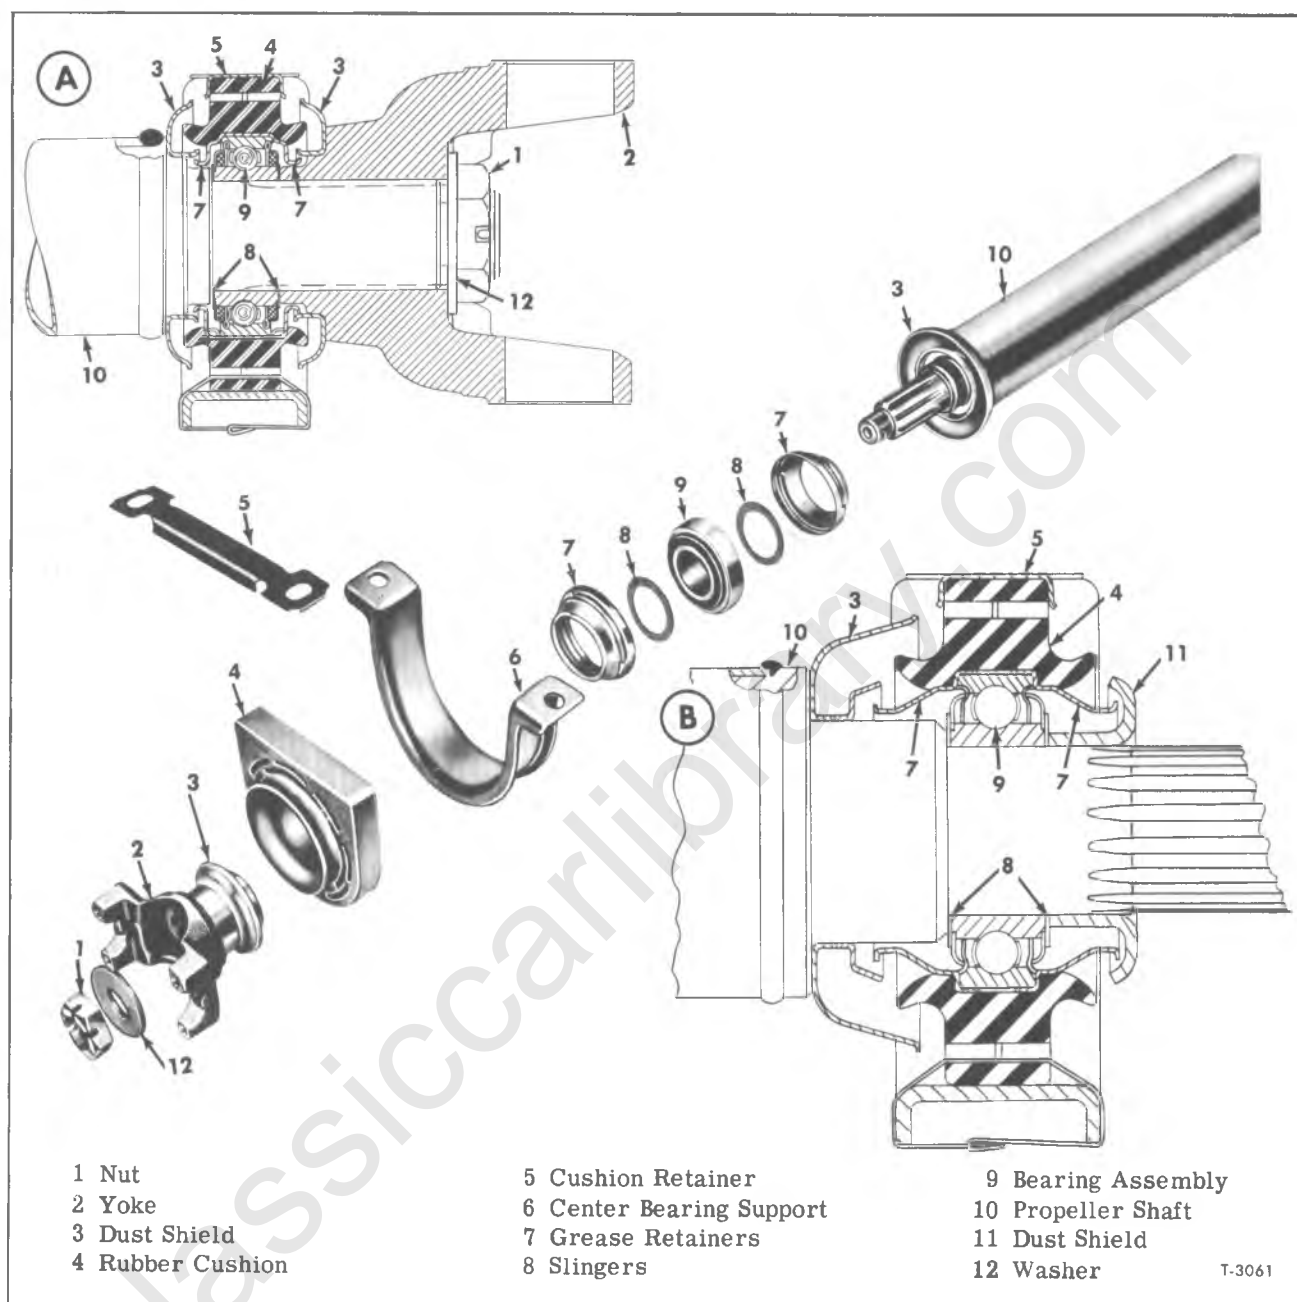

Figure 2—Typical Propeller Shaft Center Bearings
onto end of yoke. Fixed yoke may be either welded to propeller shaft tube or it may be splined to a stub shaft and secured with a nut and cotter pin as shown in figure 2. It is recommended that a scribe mark be made on slip yoke and shaft to provide for alignment of yokes later at assembly.
CENTER BEARING (Fig. 2)
Center bearings are used to support center portion of drive line when two or more propeller shafts are used. Bearing is ball type, mounted in a rubber cushion which is attached to frame cross-member by the center bearing support. The two center bearings shown in cross section in figure 2 are of the same construction except for shape and location of dust slinger. View B illustrates center bearing used at shaft end with slip yoke; View A illustrates center bearing used at shaft end with fixed yoke. Bearing is prelubricated and permanently sealed. Cavities in grease retainers on both sides of bearing are packed with waterproof grease to exclude dirt and water.
The following procedure covers disassembly of center bearing with propeller shaft removed from vehicle. Key numbers in text refer to figure 2.
1. Remove retainer (5) from support (6), then remove support from cushion (4).
2. On type shown in View A, figure 2, remove cotter pin and nut securing yoke (2) on shaft, then pull yoke off shaft. On type shown in View B, remove dust shield (11) from shaft.
3. Remove rubber cushion (4) from bearing (9), then pull bearing assembly from shaft.
4. Remove grease retainers (7) from bearing, and remove slingers (8).
Key numbers in text refer to figure 2.
1. If removed, install new dust shields (3) on shaft or yoke. Tack weld or stake shields in place.
2. Press a grease retainer (7) over each side of bearing outer race. Pack cavities in retainers with "MPG" type grease recommended in LUBRICATION (SEC. 0) of this manual.
3. Install one slinger (8) over end of shaft. Start bearing and retainer assembly straight on shaft, then using a suitable sleeve to exert force on bearing inner race, press bearing and slinger against shoulder on shaft. Install the other slinger (8) over shaft and position against bearing.
4. Install rubber cushion (4) over bearing assembly, making sure bearing is centered in hole in cushion.
5. Position support (6) around cushion and install cushion retainer (5).
6. On type shown in View B, figure 2, press dust shield (11) onto shaft against slinger (8). On type shown in View A, install yoke (2) on shaft.